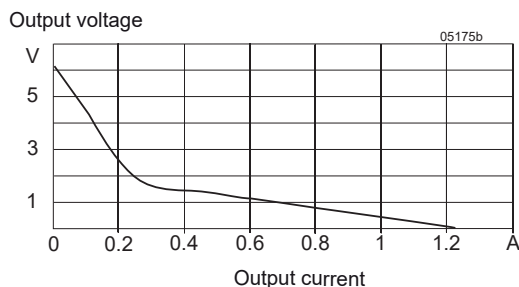

Fig. 20 Output voltage versus output current, while the shutdown is activated ($V_i = V_{i\ nom}$).
Reduces the output power to approx. 1 W, but the converter is not fully disabled. In a no-load condition, V_o drops below 6.2 V; see fig. 20. In double-output models, only output 2 is influenced.
Resistor R_{ext1} , connected between R (pin 2) and GND1 (pin 1) of the D-SUB connector or according to fig. 20.
Note: If the R function is not included in M1 or M2, refer to figure 20 how to connect R_{ext1} or R_{ext2} .
b) Adjustment by an external control voltage V_{ext} (1.25 – 2.75 V), connected between R (pin 2) and GND (pin 1) of the D-SUB connector or according to fig. 20.